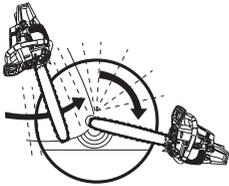

Fig. 19
- If the diameter of the tree is greater than the length of the guide bar, make two cuts, as shown (Fig. 19).